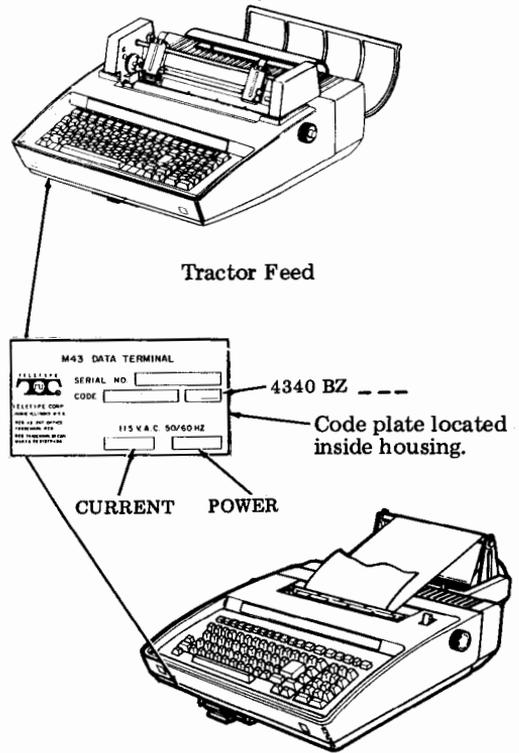

Fig. 1—43 Buffered S/R Stations
1.01 This section provides a general description of the 43 Teleprinter 8-Level Buffered Send/Receive (BSR) Stations (refer to Fig. 1).
2.02 The 43 BSR stations are available with friction feed or tractor feed paper handling capabilities. See Fig. 1 for teleprinter identification.